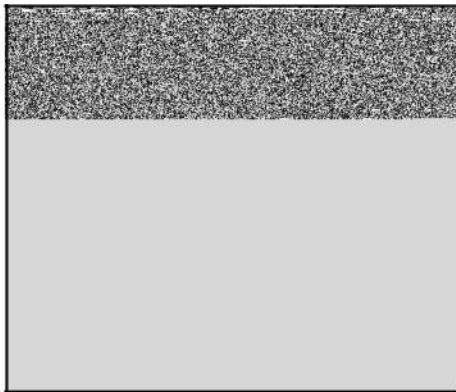

Figure 14
3. Assemble washer (C, Figure 14) to puller screw (D) and insert through large end of removal driver (B). Place open end of support (A) against ball bearing.